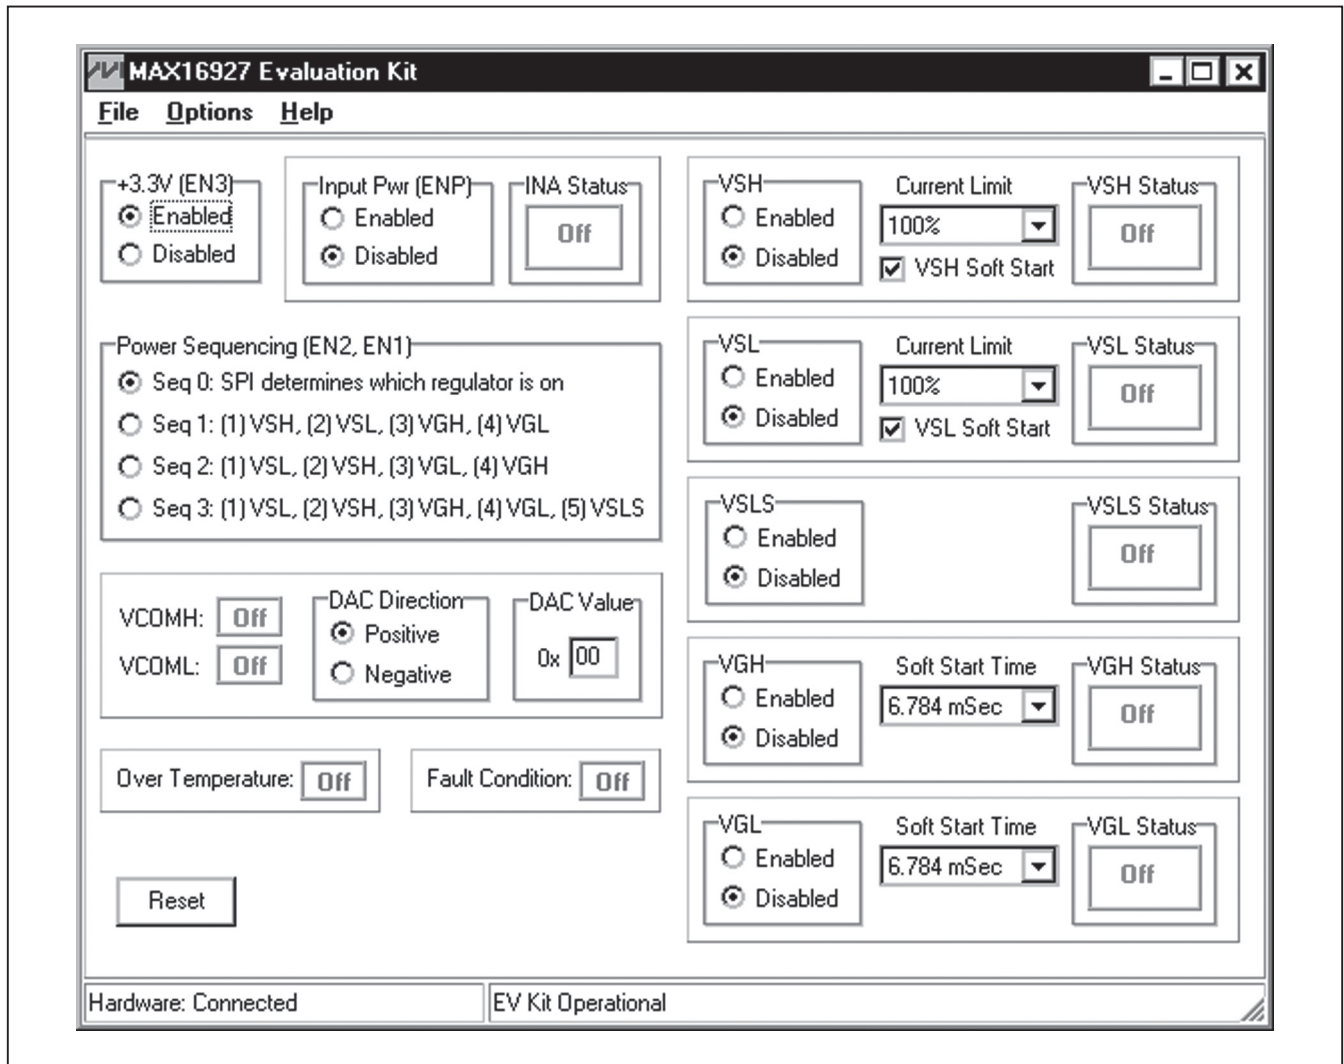

Figure 1. MAX16927 EV Kit Software Main Window
- 10) Observe as the program automatically detects the connection of the device and starts the main program. After successful connection, the EV kit software main window appears in the upper-left corner of the window, as shown in Figure 1.
The GUI shown in Figure 1 displays the EV kit software main window. This window provides a convenient means to control the device. Use the mouse or press the Tab key to navigate through the GUI controls. The correct SPI write operation is generated to update the device's internal memory registers when any of these controls are executed.
The EV kit software main window (Figure 1) divides the EV kit software functions into logical sections: The **+3.3V (EN3)** and **Input Pwr (ENP)** sections, the **Power Sequencing (EN2, EN1)** section, the **VSH, VSL, VSLS, VGL,** and **VGH** sections, the **VCOMH** and **VCOML** sections, and the **Over Temperature** and **Fault Condition** displays. **+3.3V (EN3)** enables or disables the +3.3V buck converter. **Input Pwr (ENP)** enables or disables all the outputs on the EV kit, except for the buck-converter output. **Power Sequencing (EN2, EN1)** selects the power-on sequence. **VSH, VSL, VSLS, VGL,** and **VGH** control the VSH, VSL, VSLS, VGL, and VGH, respectively. **VCOMH** and **VCOML** control the VCOMH or VCOML directions and outputs.